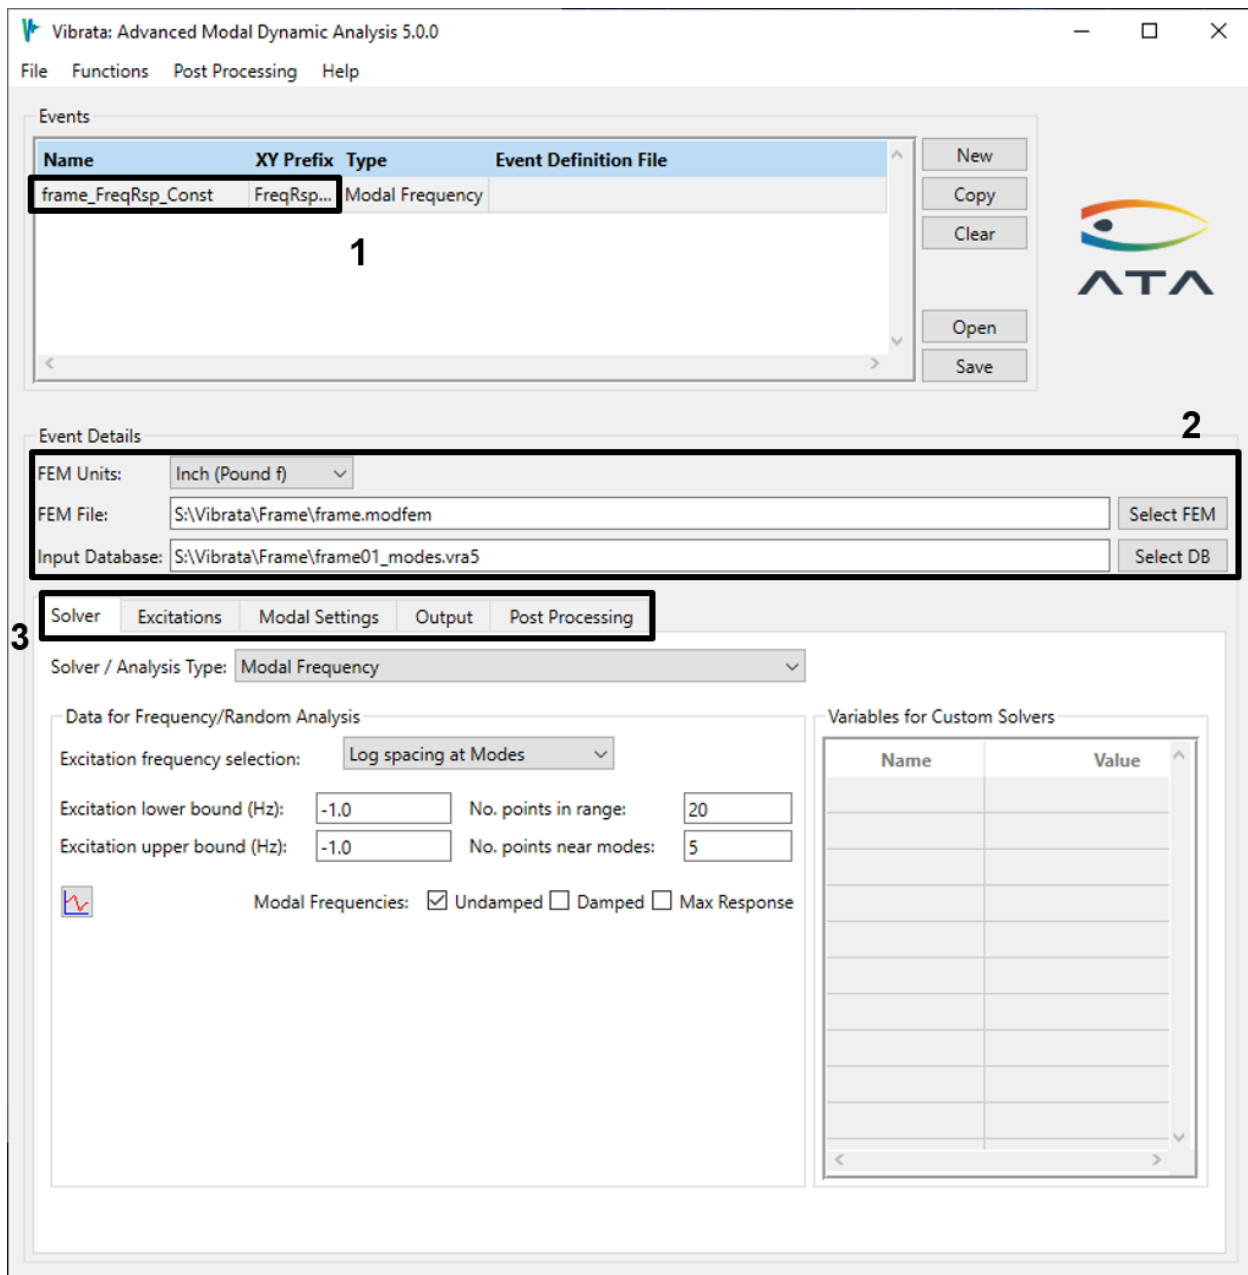

Figure 4-25. Create a new model frequency event using the frame model.
2. In the Event Manager, start a new modal frequency event and select "frame.modfem" for the FEM and "frame01_modes.op2" for the results. Give the event a recognizable name, such as the one shown in Figure 4-25.